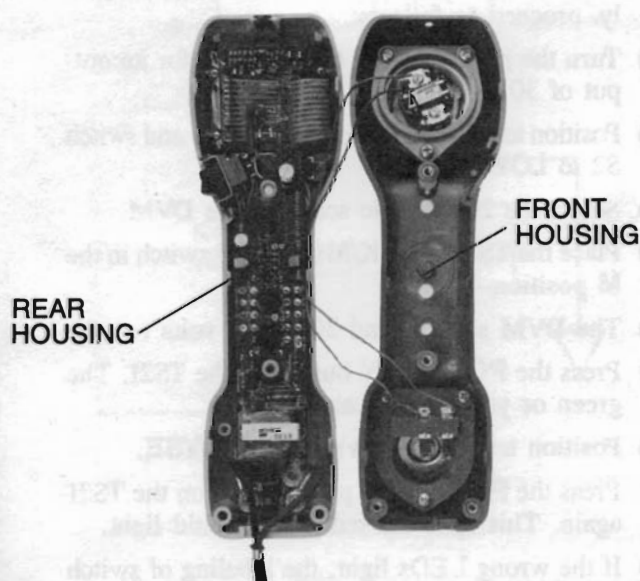

Fig. 10 - TS21 Craft Test Set Shown Disassembled
- (2) Separate the front and rear housing and place them as shown in Figure 10.
Note: Arranging the two parts of the case as shown in Figure 10 reduces the risk of accidentally pulling loose the receiver or transmitter wires.